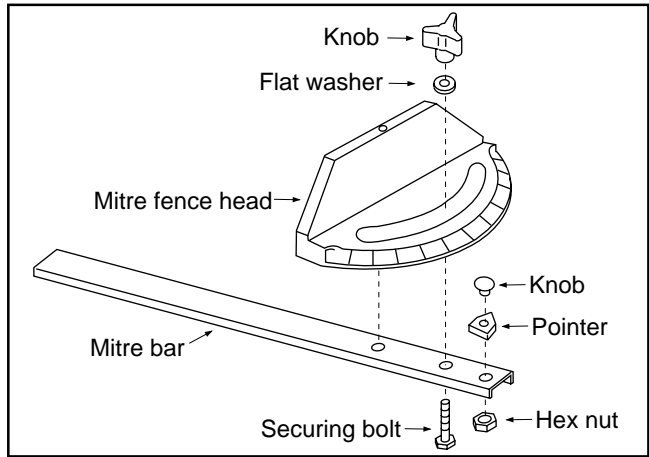

fig. Q.1
5. Position the pointer as shown in fig. Q.1 and insert the bolt, then fit the nut.